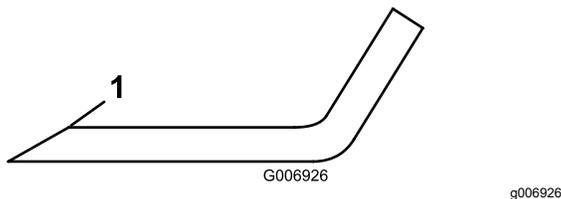

Figure 70
4. Inspect the cutting edges of all the blades. Sharpen the cutting edges if they are dull or nicked, sharpen only the top of the cutting edge, and maintain the original cutting angle to ensure sharpness (Figure 70).